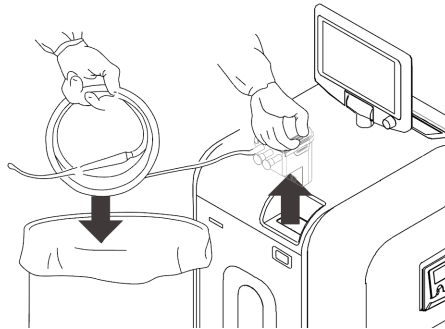

Figure 31 To Remove Disposable Manifold and Tubing
4. Push the EJECT button to remove the Disposable Manifold from the receptacle (Figure 31). Maintain the Disposable Manifold in a horizontal orientation.
5. Pull the Disposable Manifold with the attached suction tubing out of the receptacle to fully remove the Disposable Manifold from the rover (Figure 31).
6. Maintaining the Disposable Manifold in a horizontal orientation, properly dispose of the used Disposable Manifold and attached suction tubing (Figure 31).